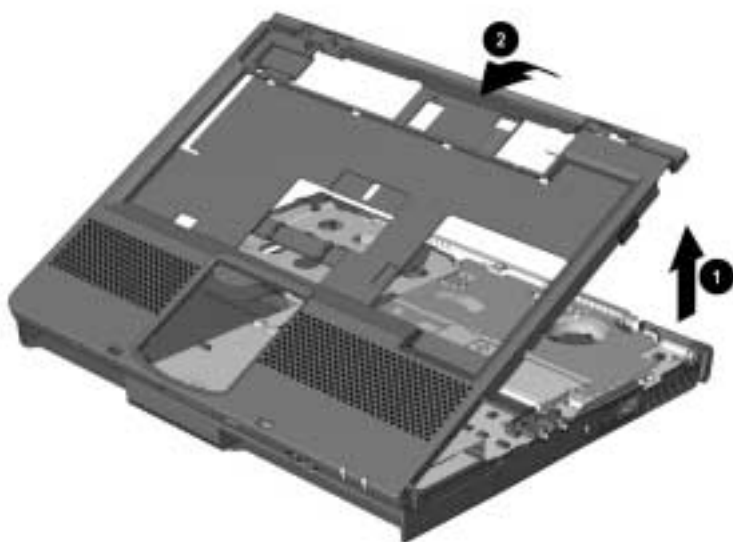

Figure 5-21. *Removing the Top Cover*
10. Lift the back edge of the top cover ❶ and swing it forward ❷ (Figure 5-21).